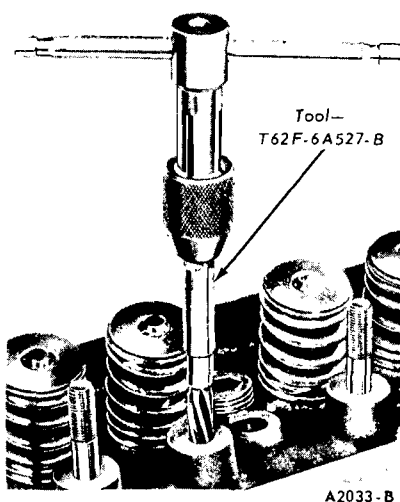

FIG. 24—Reaming Rocker Arm Stud Bore
2. If a loose rocker arm stud is being replaced, ream the stud bore using the proper reamer (or reamers in sequence) for the selected oversize stud (Fig. 24). **Make sure the metal particles do not enter the valve area.**